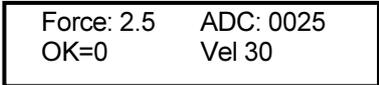

Figure 19 – Calibration window
3. After stopping again, now at the initial position, the display will show the extraction velocity (figure 19).